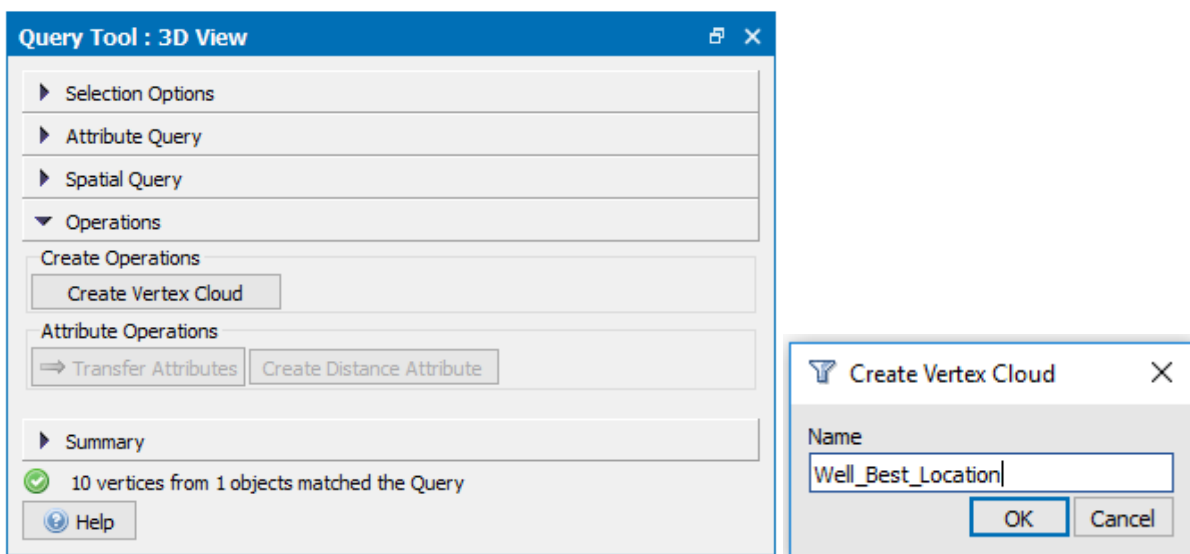

Figure 11. A new object can be created from a Query, clicking **Create Vertex Cloud** in the **Operations** tab and naming the new vertex cloud.
7. In the **Query** tool, click the **Operations** tab and click **Create Vertex Cloud** (Figure 11).